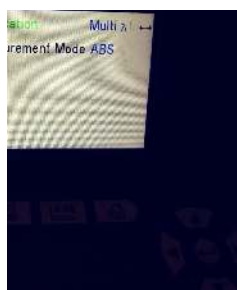

Figure 5. APPLICATION MULTI λ
7. The screen will then show APPLICATION MULTI λ , press the right arrow again. (Figure 5)